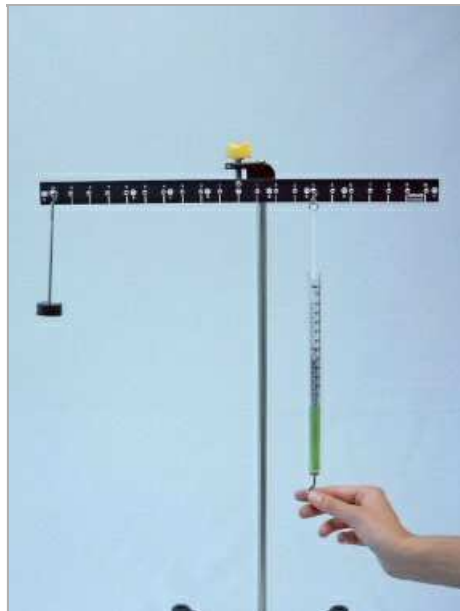

Abb. 8
- Move the spring balance successively to the 8, 6, 4 and 2 marks on the right side and measure the force F for each position (Fig. 8). Record all the values in Table 2.